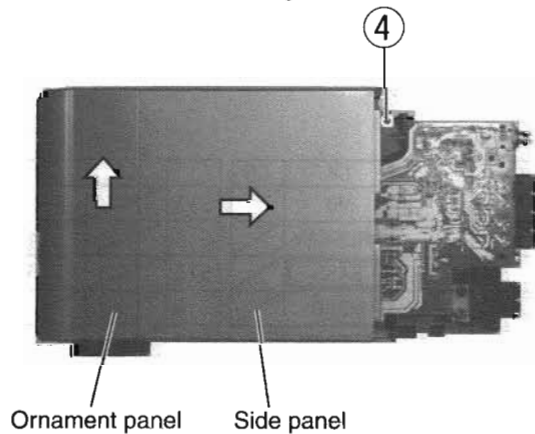

Fig.4
4. Move the left and right side panels in the directions of the arrows in the Fig.4 and 5, then remove them backwards.
5. Move the left and right ornament panels in the directions of the arrows in the Fig.4 and 5, then remove them upwards.